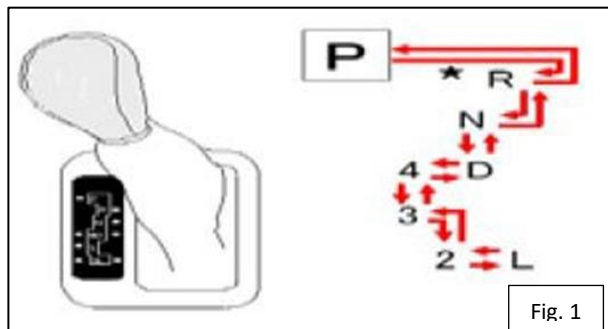

Fig. 1
2) Shift transmission in "P" (automatic) or reverse (manual). Figure 1.